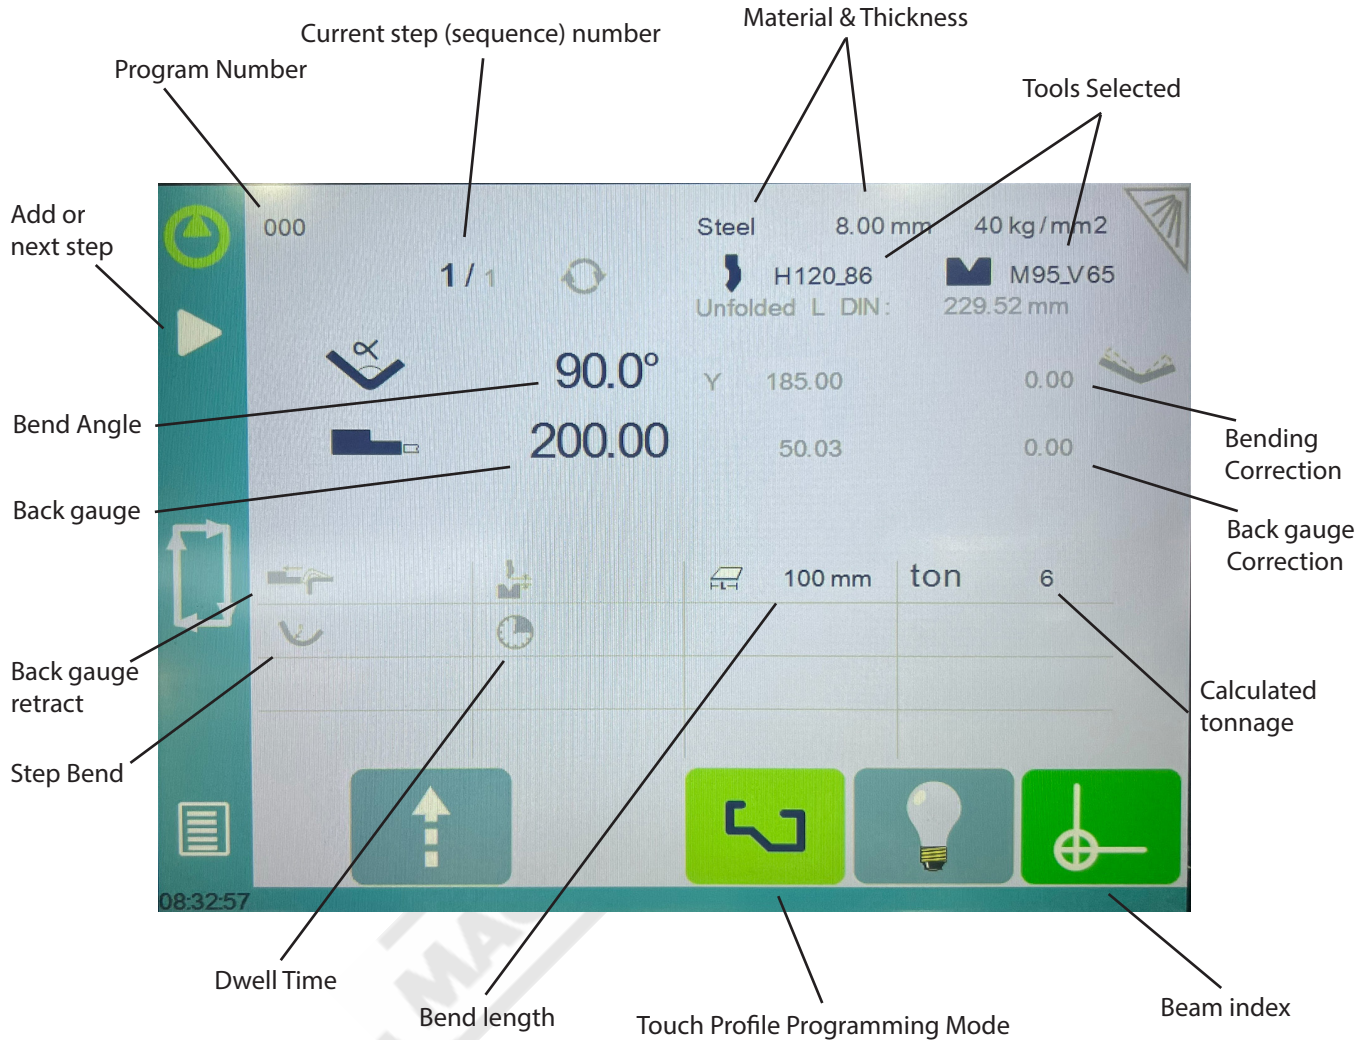

FIG. 5.7
3. Return the top beam to the top position, then inch down the top beam until it reaches the desired return point and set the return switch. This will now be the point at which the top tool beam returns to. (Fig.5.7)